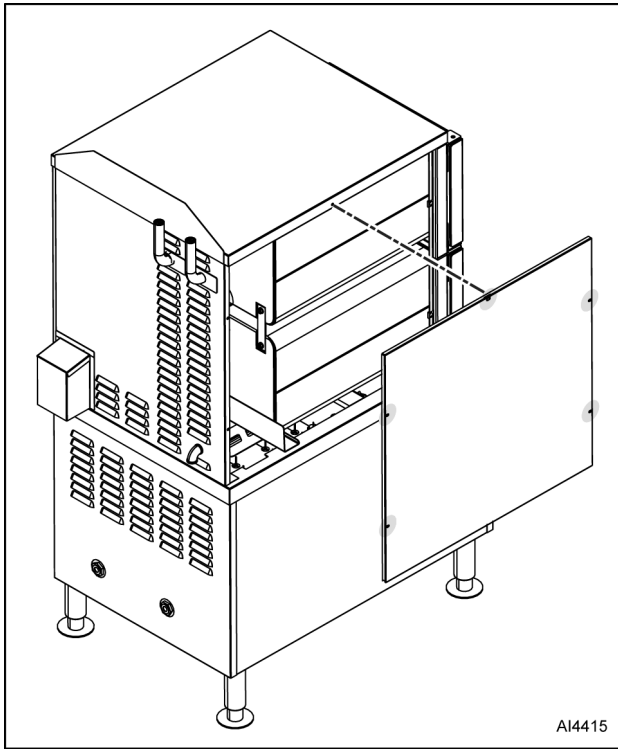

Fig. 3
1. Remove five screws from locations noted in Fig. 3.